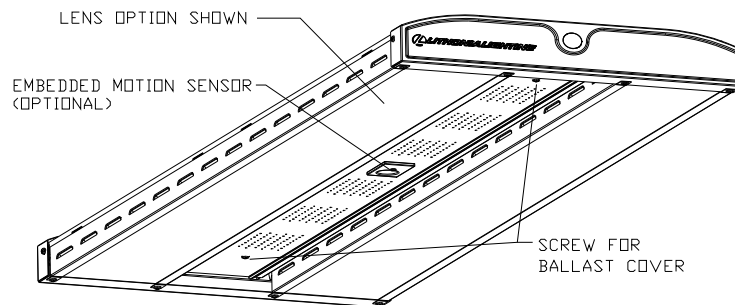

FIGURE 4
- 2) Remove the bottom ballast cover by removing the screws at the end. SEE FIGURE 4